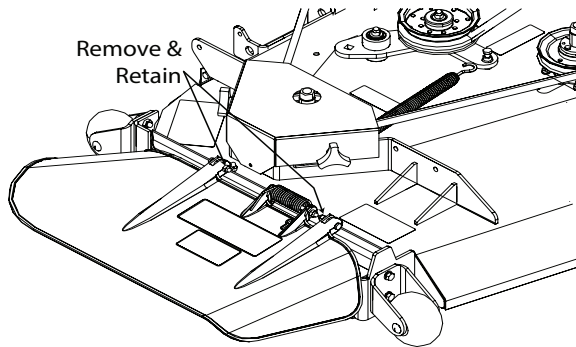

Figure 3-33. Removing the Discharge Chute
3. Remove the discharge chute from the machine. See Figure 3-33.